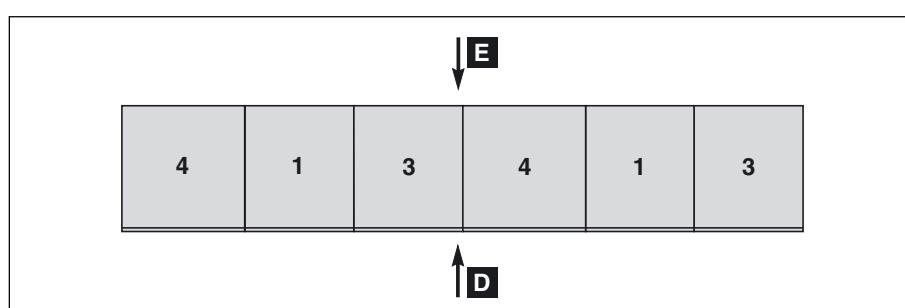

Fig. 7
- see figure 7 for two parallel-connected MGE™ Galaxy™ PW units with battery and auxiliary cubicles.